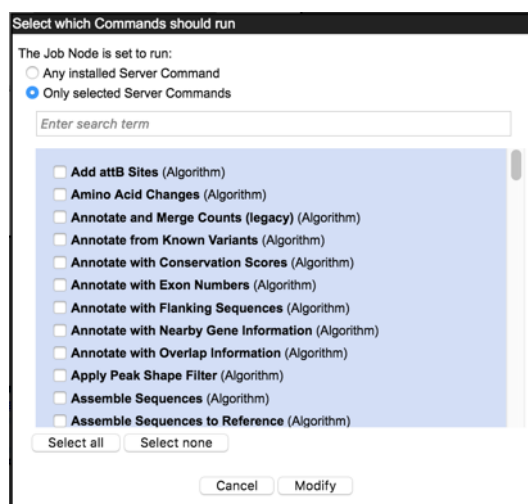

Figure 6.4: Select Server Commands to run on the job node.
- Optionally, click on the button labeled "Manage Job Types" to specify the types of jobs that can be run on each node. See figure 6.4. The default is "Any installed Server Command". If you choose instead "Only selected Server Commands", a search field and a list of all server command names and types will appear. The search field can be used to narrow down the server commands by name or type. Only the tools selected can then be run on that particular job node. Click **Modify** when you are done.